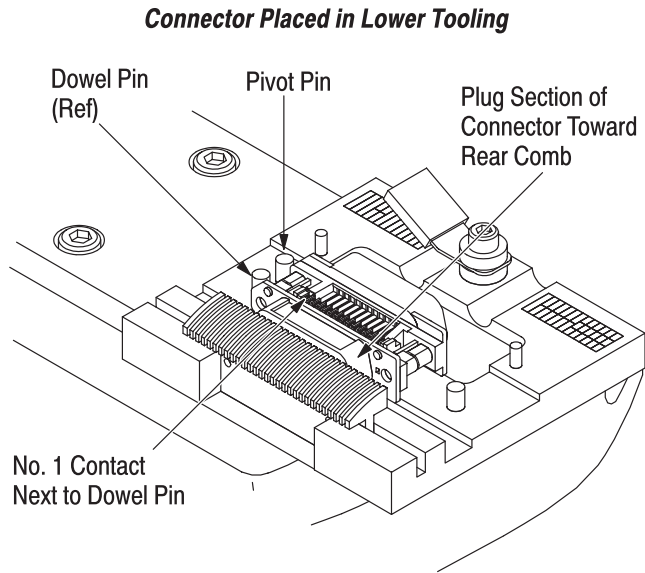

Figure 3
5. Place a connector into the lower tooling so that the plug section is toward the rear comb and the No. 1 contact position (stamped on mating face of connector) is next to the dowel pin. Push down on the connector until it is seated in the lower tooling. See Figure 3.